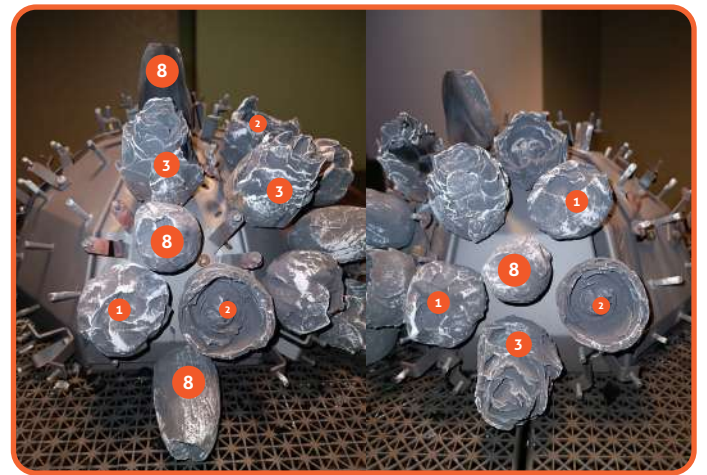

Figure 10.3 | Flower placement part 1
Step 2: See Figure 10.3 en Figure 10.4